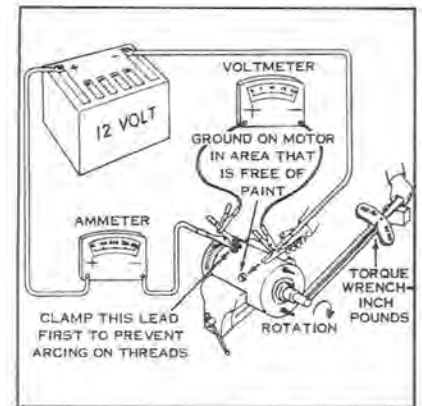

Figure 7-40
- a. Connect a voltmeter between the starter terminal (+) and motor frame (-). Using a torque wrench to stall motor armature (see Figure 7-40), connect starter motor through an ammeter to a 12-volt battery.